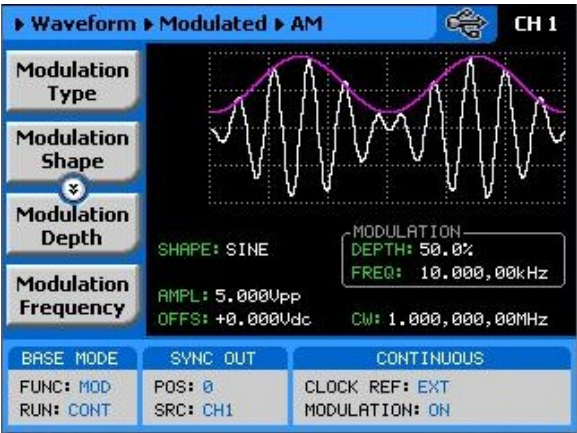

Figure 3-54, AM Menus
The AM function enables amplitude modulation of a carrier waveform (CW). The carrier waveform is sinewave and it is being modulated by an internal waveform, normally referred to as envelop waveform. The envelop waveform can be selected from sine, triangle square or ramp shapes. When AM is selected, the menus that are associated with AM will be accessible. These are shown in Figure 3-54.